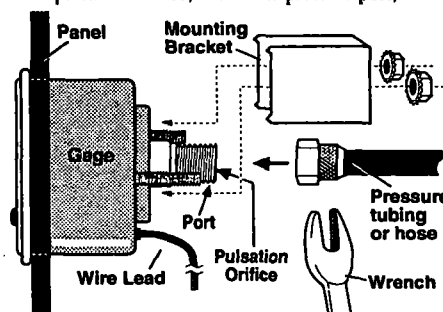

Figure 2
All models can be installed in a panel from 0.032 to 0.250 in. (1 to 6 mm) thick. Remove the mounting bracket and insert the gage from the front side of the panel. Replace bracket and secure it. Do **NOT** overtighten. (See Figure 2).
1. Pressure tubing is generally not provided. Use of good quality flexible pressure tubing/hose and fittings is strongly suggested. Use at least 3/16 in. (5 mm) I.D. tubing. If using copper or rigid tubing, install at least 12 in. (305 mm) flexible hose from the gage to the rigid tubing. This prevents damaging vibration from reaching the gage. For most models a pulsation orifice, within the pressure port, is provided and it is removable for cleaning (Figure 2).
1. To connect the high pressure tubing use at least 3/16 in. (5 mm) I.D. flexible pressure tubing/hose and fittings. If using copper or rigid tubing, install at least 12 in. (305 mm) flexible hose from the gage to the rigid tubing (to prevent damaging vibration to the gage, see Figure 2).